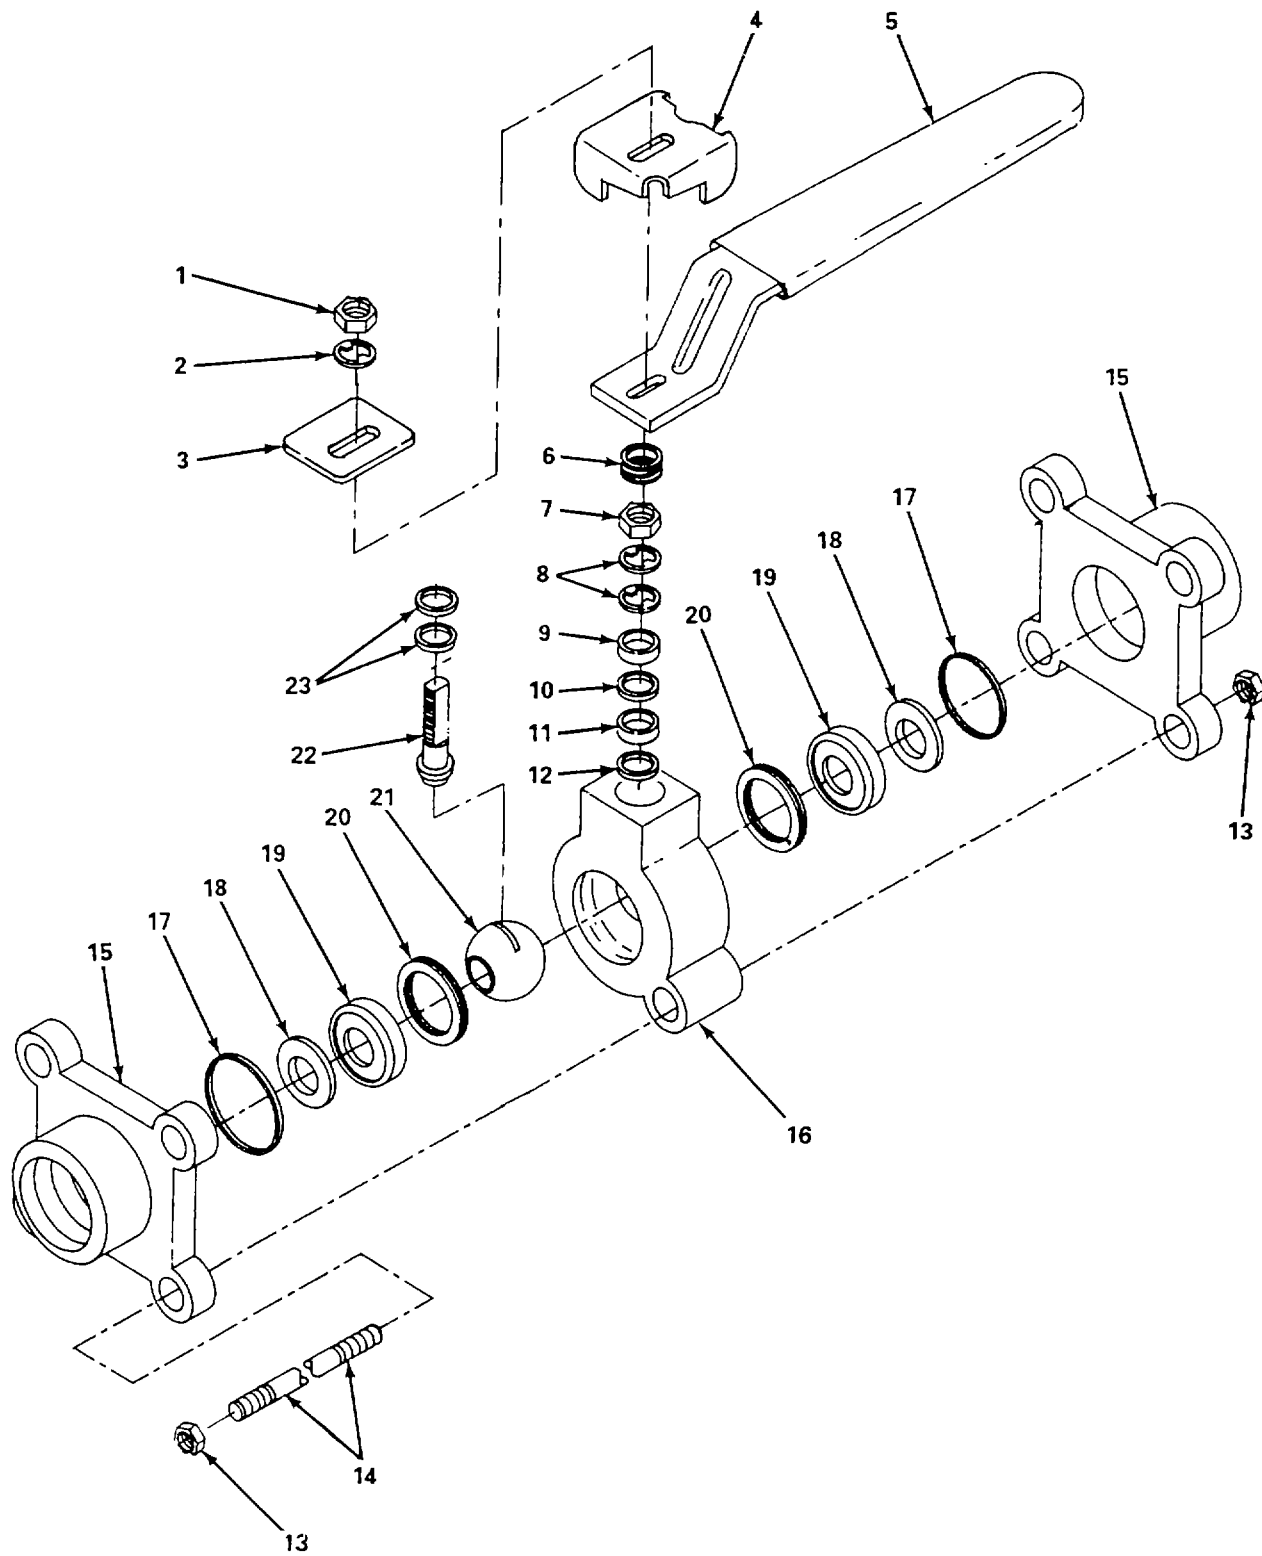

Figure 5-55. Dump Valves, Repair.
- (4) Apply teflon tape on all pipe threads.
- (5) Install silencer (9) on valve (7).
- (6) Hold elbow fitting (8) and install valve (7) on elbow fitting (8).
- (7) If removed, install spring (6), handle (5), stop plate (4), plate (3), and stem spring (2) on valve (7).
- (8) Pressurize system and check corrections for leaks. Check valves for proper operation.
- b. Repair. (figure 5-55)
- (1) Remove dump valve (para. a. above).
- (2) If not removed, remove nut (1), stem spring (2), plate (3), stop plate (4), handle (5), and spring (6).
- (3) Remove nut (7), two stem springs (8), gland (9), packing support (10), top packing (11), and bottom packing (12).
- (4) Remove eight nuts (13), four stud bolts (14), and two flanges (15) from body (16).
- (5) Remove two preformed packings (17), seat spring (18), seats (19), support rings (20), and ball (21) from body (16).
- (6) Remove stem (22) and two stem bearings (23) from body (16).
- (7) Clean all components using nonionic detergent cleaner and rinse with clean distilled water.
- (8) Inspect all items and replace all items that are bent, cracked, worn, or otherwise damaged.
- (9) Install two stem bearings (23) on stem (22) and install stem into body (16).
- (10) Install ball (21), two support rings (20), seats (19), seat springs (18), and preformed packings (17) in body (16).